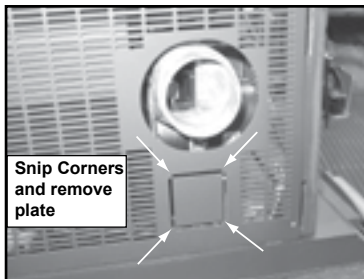

Figure 17.1
- Snip corners and remove plate. **Figure 17.1.**